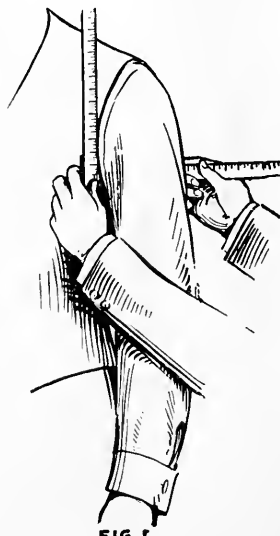

FIG. 1
4. Place the Square under the arm on the "Left" side of the customer, for the reason that the person is more normal on the left side; also that it is more convenient, because you are then applying all the measures with the right hand, the left hand doing nothing but holding the tape line in position (unless you should be a left-handed person. Place the square with the short arm extending upwards and the long arm horizontally under the arm and close against the front of the arm; mark with the chalk in front of the square. (See Fig. 1.)